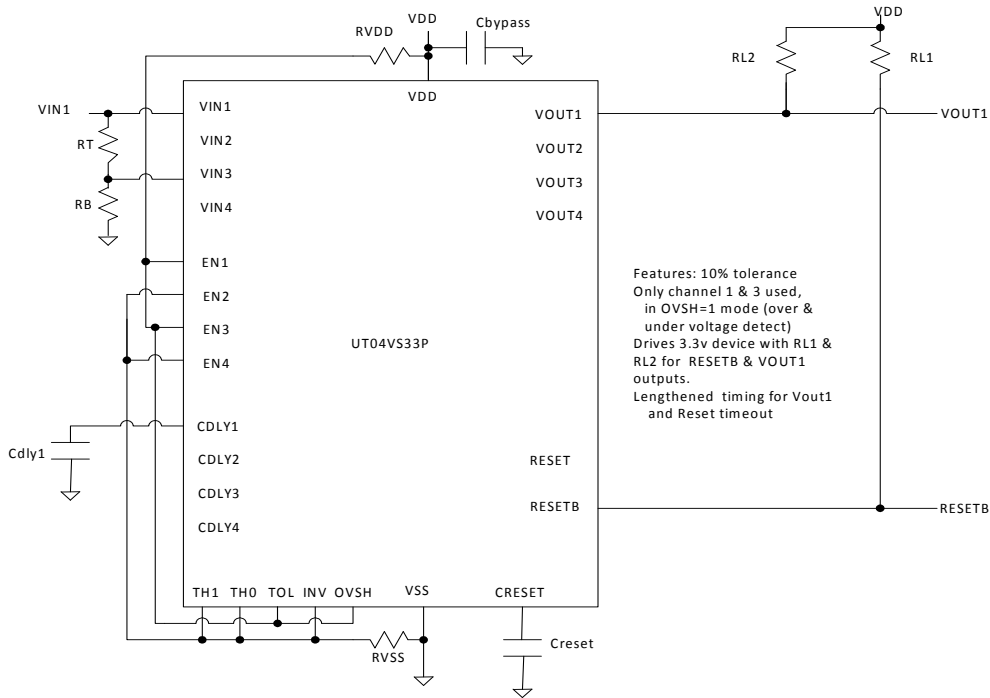
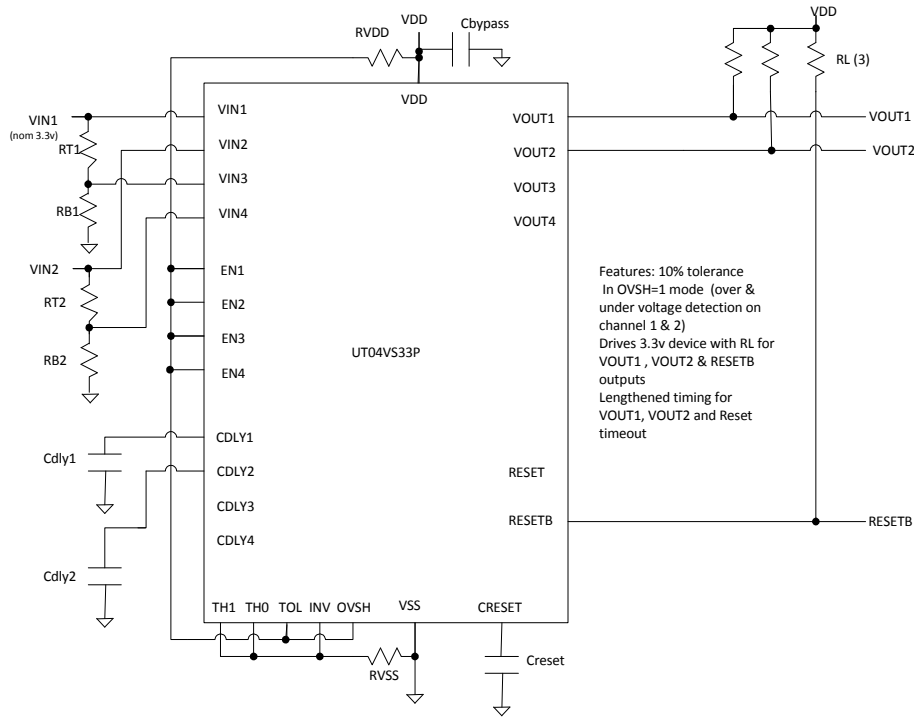

Figure 8. Extended use application showing OVSH connection for channel 1
Figure 9. Extended use application showing OVSH connection for channel 1 and 2
- For OVSH=1, V_{TH_OVRV} is the threshold which is set with external resistors to either the V_{IN3} or V_{IN4} input to monitor an over-voltage condition in conjunction with the under-voltage monitor by VIN1 or VIN2, respectively, as shown in Figure 8 and Figure 9.
Shown in Figure 8 is an extended application showing the use of Cdly and Creset capacitors. OVSH is set to logic 1 to highlight the under- and over-voltage detection mode connections. Thus, a resistor voltage-divider on channel 3 is connected from the channel 1 source.
Shown in Figure 9 is an extended application showing the use of Cdly and Creset capacitors. OVSH is set to logic 1 to highlight the under- and over-detection mode connections on channel 1 and channel 2. Thus an r-divider on channel 3 and 4 are connected from the channel 1 and 2 source.